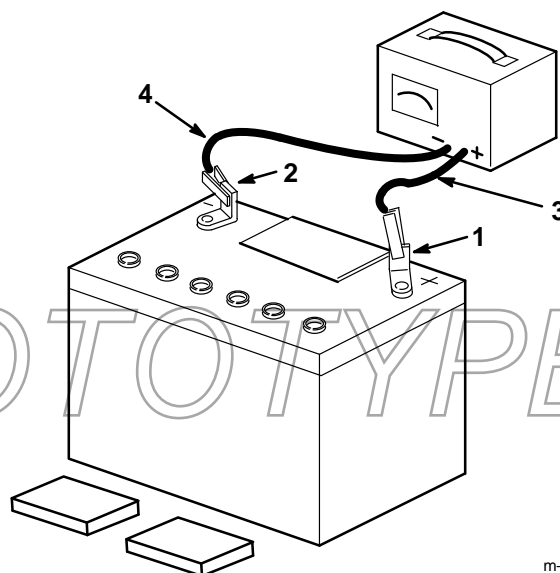

Figure 6
4. Leave the covers off and connect a 3 to 4 amp battery charger to the battery posts (Fig. 6). Charge the battery at a rate of 4 amperes or less for 4 hours (12 volts).
5. When the battery is fully charged, disconnect the charger from the electrical outlet then from the negative and positive battery posts (Fig. 6).